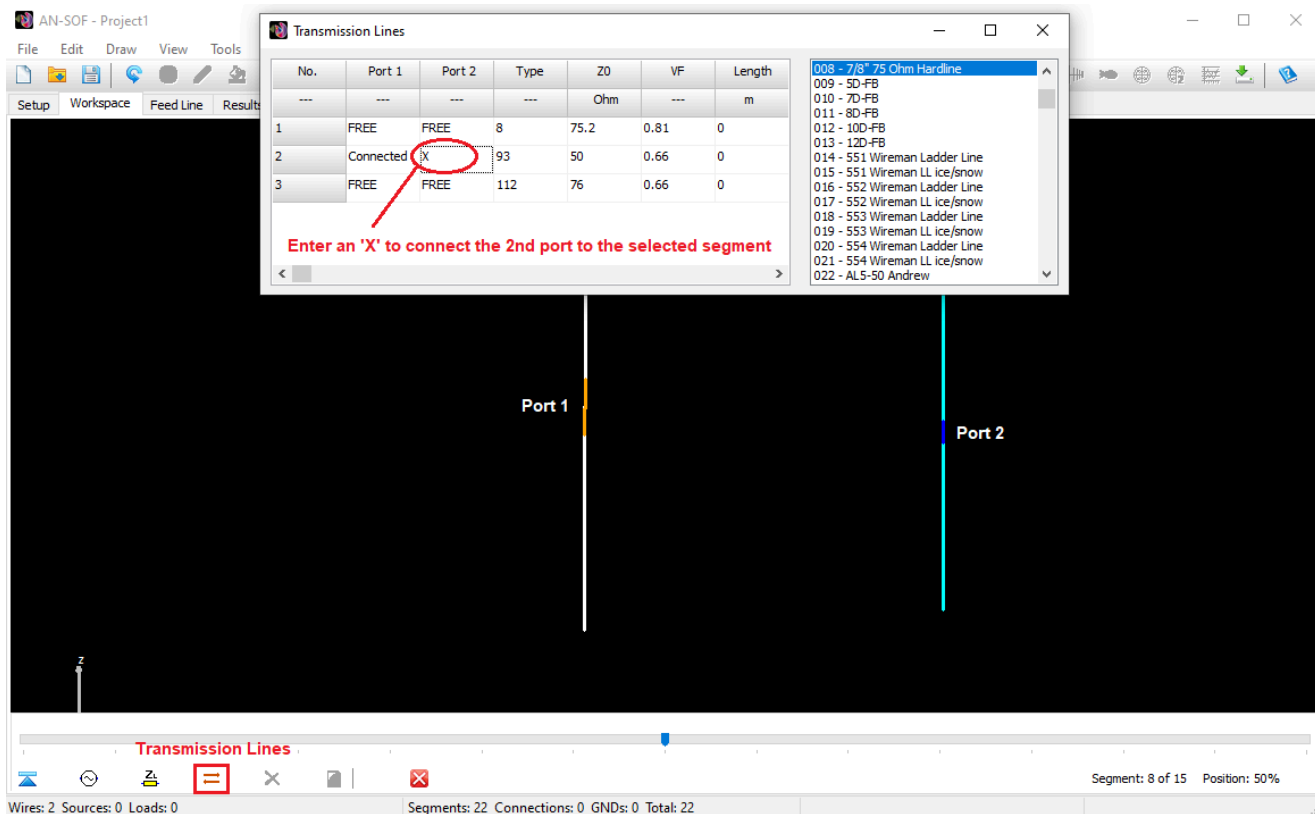
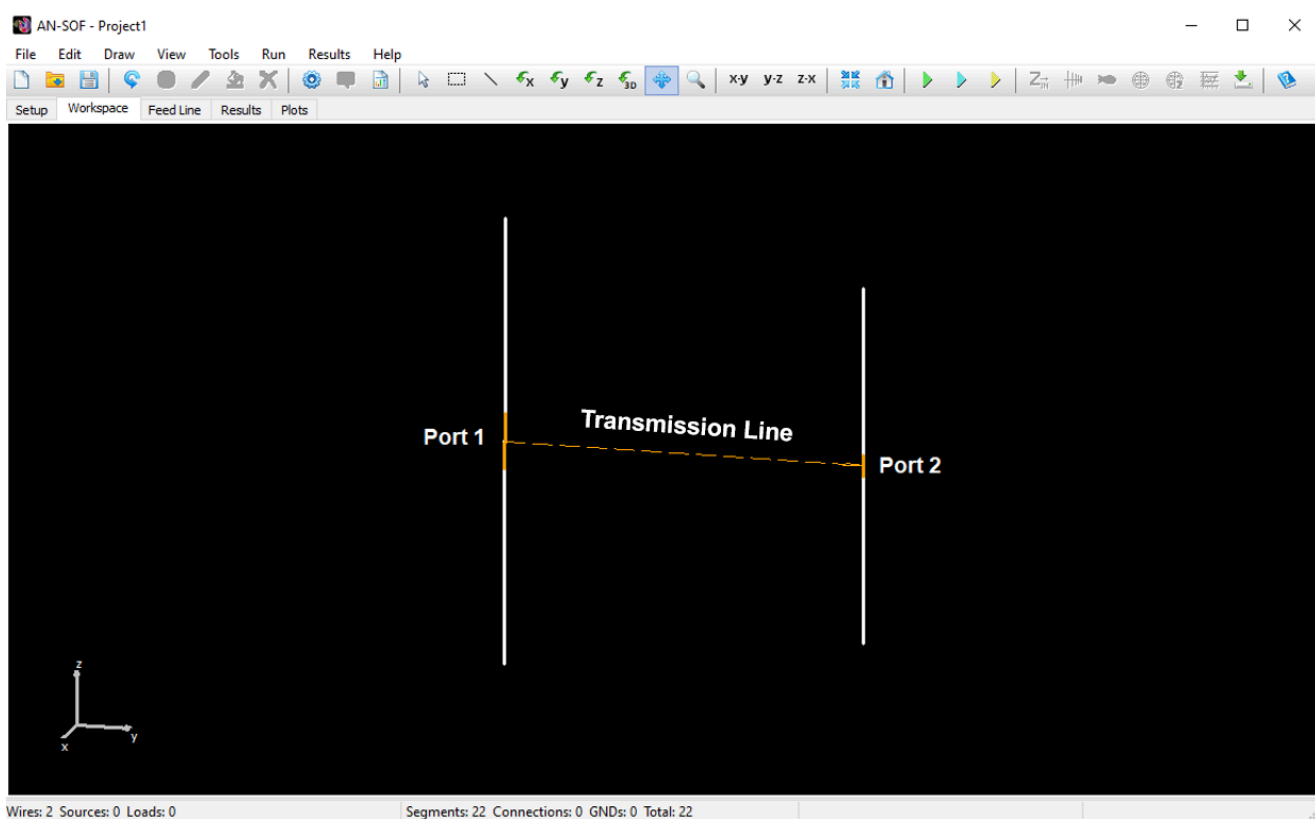

Fig. 3: Select the second segment and enter an 'X' in the ports that you want to connect there.
Fig. 4: Transmission line in the workspace, connecting two segments located on different wires.
Fig. 4: Enlarge the Transmission Lines window to view the loss model parameters and shunt admittances. In this example, the K0, K1, K2, and K3 columns of the RLGC model are displayed since a line has been chosen whose attenuation curve is adjusted to this model.
5. Select the second wire and repeat steps 1-4 to connect the second port of the transmission line to another segment, Fig. 3. The transmission lines with both ports connected will be graphically displayed as shown in Fig. 4.
The transmission lines that have both ports connected to segments are displayed as **straight dashed lines in orange color** in the workspace, Fig. 4. An **arrow** will indicate the direction of the line, which goes **from port 1 to 2**. Since the length of a line is another parameter that is entered, such as its characteristic impedance and velocity factor, the length of the line in the workspace may not represent the configured or “real” length of the line.